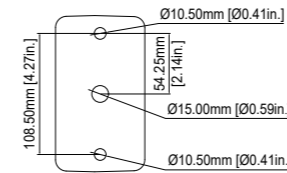

Figure 12
1. The mounting hole layout of this bracket for the SQA mounting configuration is shown in Figure 12.